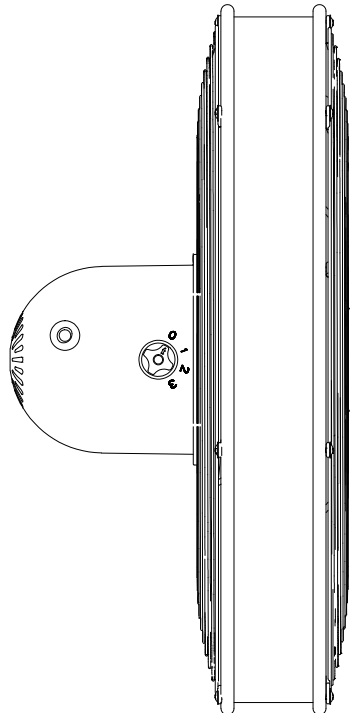

Fig.2
1. To adjust fan speed, turn the speed control switch which is located at the motor housing to the desired position (Fig.2).